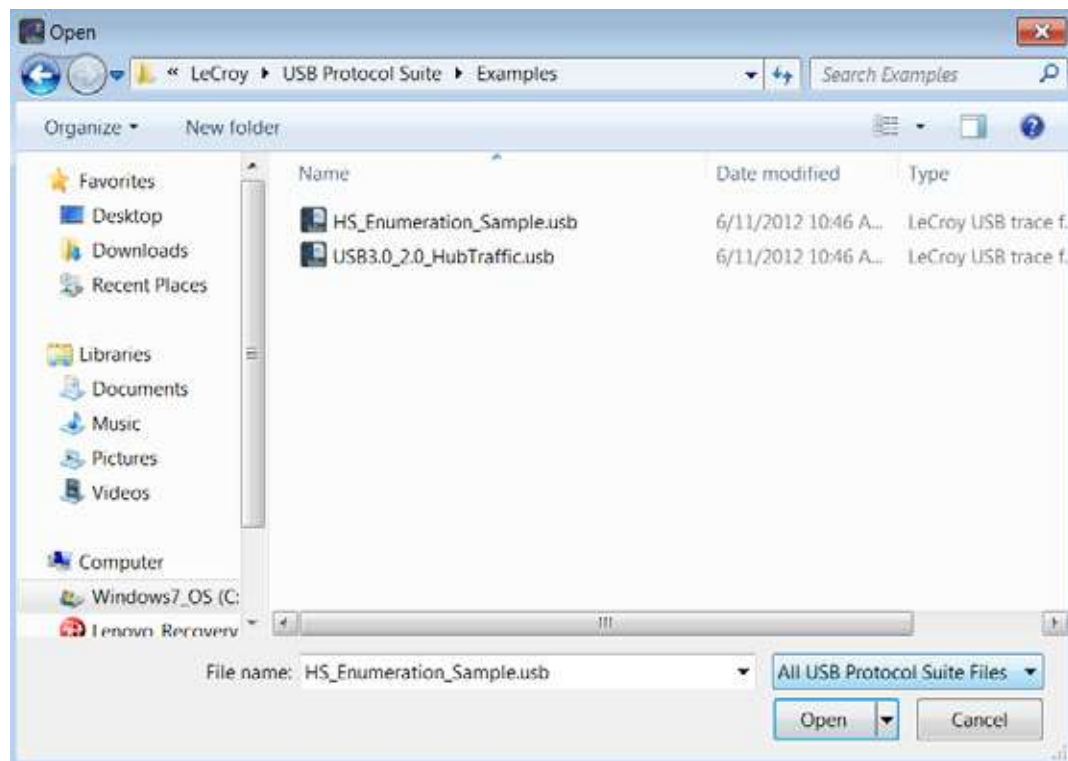

Figure 11.16: Open Dialog
1. Select **File > Open ...** from the menu to display the Open dialog (see Figure 11.16 on page 655):